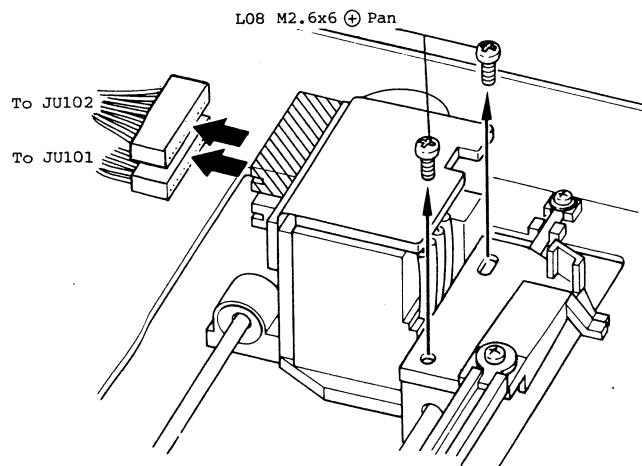

Fig. 2.2
- (4) Remove L08 and two connectors. See Fig 2.2.